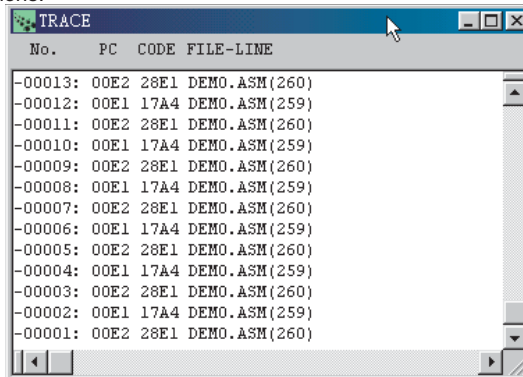
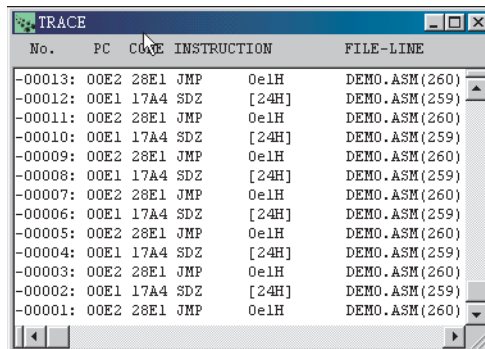

Fig 5-6
Fig 5-7
Once the trace qualify and trigger conditions have been setup, those instructions which satisfy the qualify conditions will be recorded in the trace buffer. The Trace List command of the Window menu provides the functions to view and check the trace record information, used for debugging the program. The trace record fields may not all be displayed on the screen except for the sequence number. These fields are dependent upon the settings in the Debug sub-menu from the Options menu. The text enclosed by the parentheses are the headings shown in the Trace List command of the Window menu. Fig 5-6 and Fig 5-7 illustrate the contents of the trace list under the different debug options.
- For any of the trigger modes, the sequence number of a trigger point is +0. The trace records before and after the trigger point are numbered using negative and positive line numbers respectively. If all the fields of the Trace Record Fields (in the Debug Option of Option menu) are selected, the result is as shown in Fig 5-7. If No trigger mode is selected or the trigger point has not yet occurred, the sequence number starts from -00001 and decreases 1 sequentially for the trace records (Fig 5-6).
- **Program count (PC)**